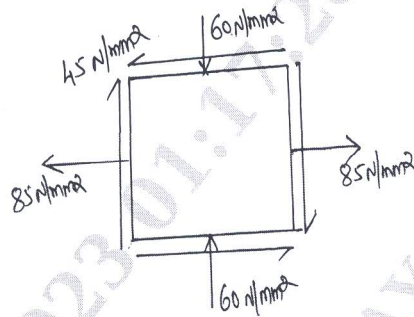

Fig Q4
- 4 For the state of stress shown in Fig Q4. Determine principle stresses and principle planes also obtain maximum shear stress [tangential stress] verify your answer by constructing Mohr's circle.